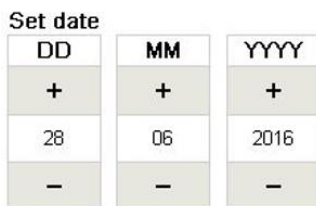

Figure 113
**Set date:** Set the current date using the date control (Figure 113).